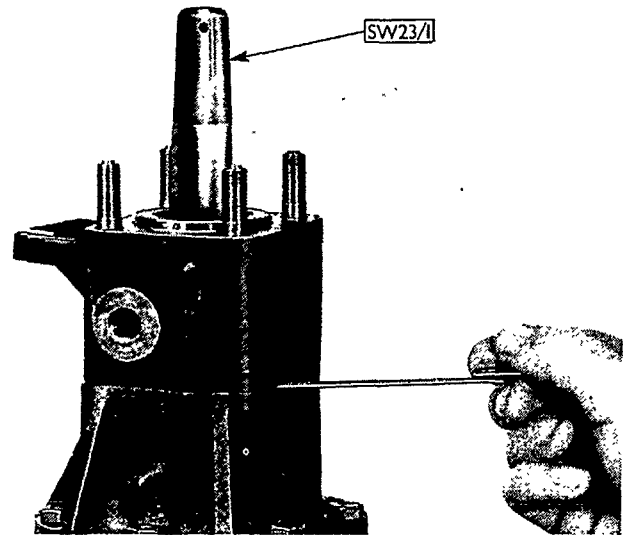

Figure 17
10. Ensure that the three annular rings are correctly positioned in the valve housing and with no pre-load shims in position install the valve housing oil seal protector sleeve, Tool No. SW23/1 over the valve core spline. Slide the valve housing over the four bearing housing studs and lightly tap into position. Ensuring that the valve housing is correctly seated, determine the gap between the two housings with feeler gauges as shown in Figure 17. Subtract 0.003 in. (0.08 mm.) from this value and select shims to within 0.0015 in. (0.04 mm.) of the resultant value. Remove the valve housing, insert the shims, reinstall the valve housing and remove the oil seal protector sleeve.